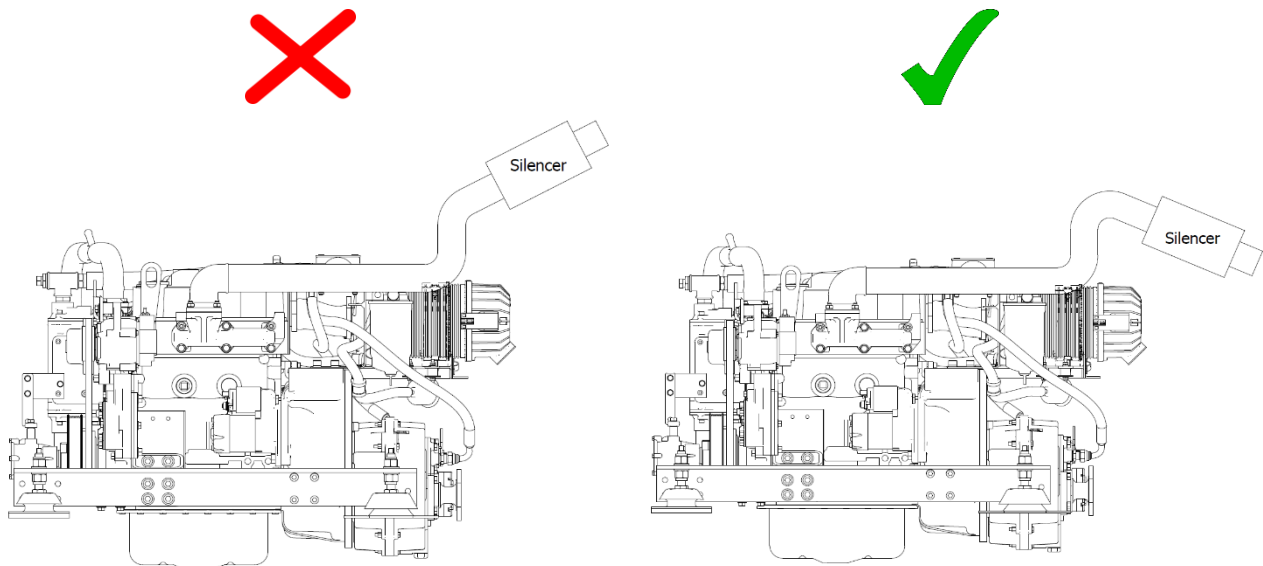

Figure 16: Correct Exhaust Installation
- Make sure the exhaust increases then decreases in height as shown in (**Figure 16**).